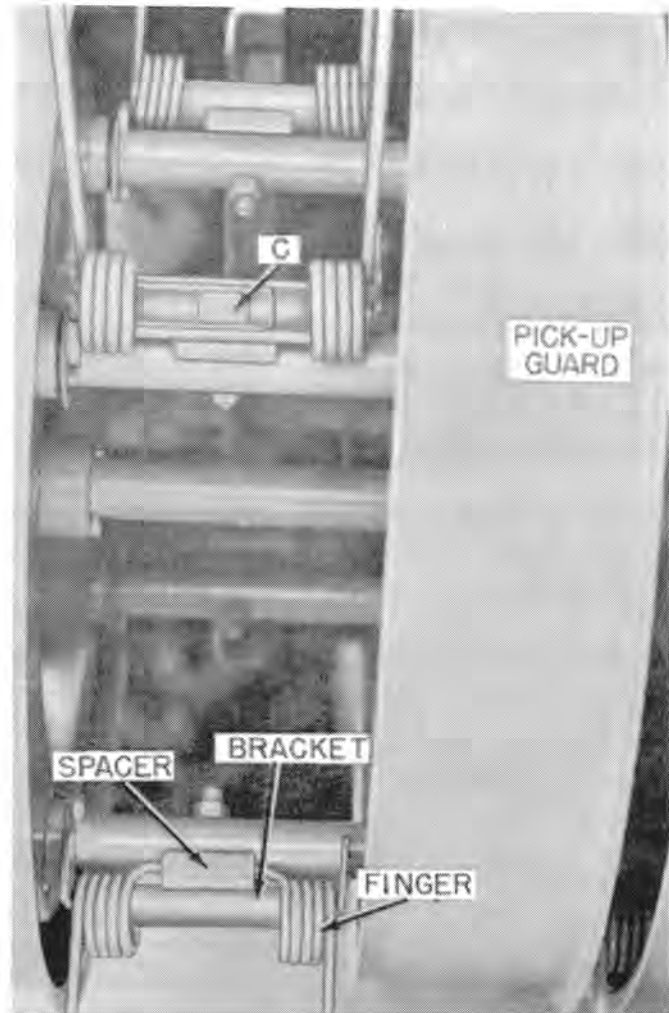

FIGURE 54
Figure 54 shows the attachment of the pickup finger to the pickup tooth pipe.
1. Remove the four capscrews holding the pickup guard, and remove the pickup guard as shown in Figure 54.
4. Install the bracket and spacer as shown in Figure 54 with the new pickup finger.